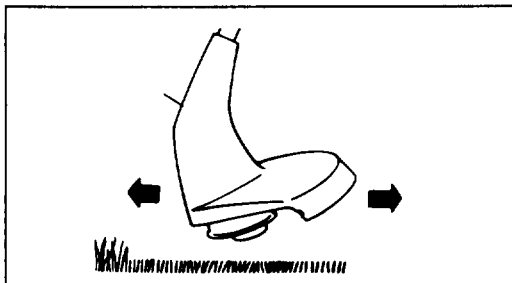

Figure 9
4. Slowly move unit in and out of area being cut, maintaining unit at desired cutting height. This can be either a forward-backward or side-to-side motion as indicated (Figs. 9 & 10).